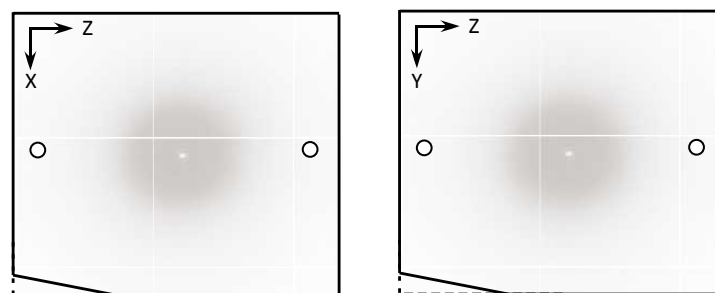

Figure 1.26 The films after the exposure, marked with orientation and positioning markers
(2)	Knob	(6)	Needle
(3)	Clamp	(7)	Film fixation screws
(4)	Housing
- 7 Use the needle (6) to make a hole in the film.
- 8 Push and turn the film markers (5) to make two positioning markers in the film.
- 13 Examine the film to make sure that the exposure is reasonable. Also make sure that there is a narrow hole and two positioning markers in the film, see Figure 1.26. If necessary, do the measurement again.